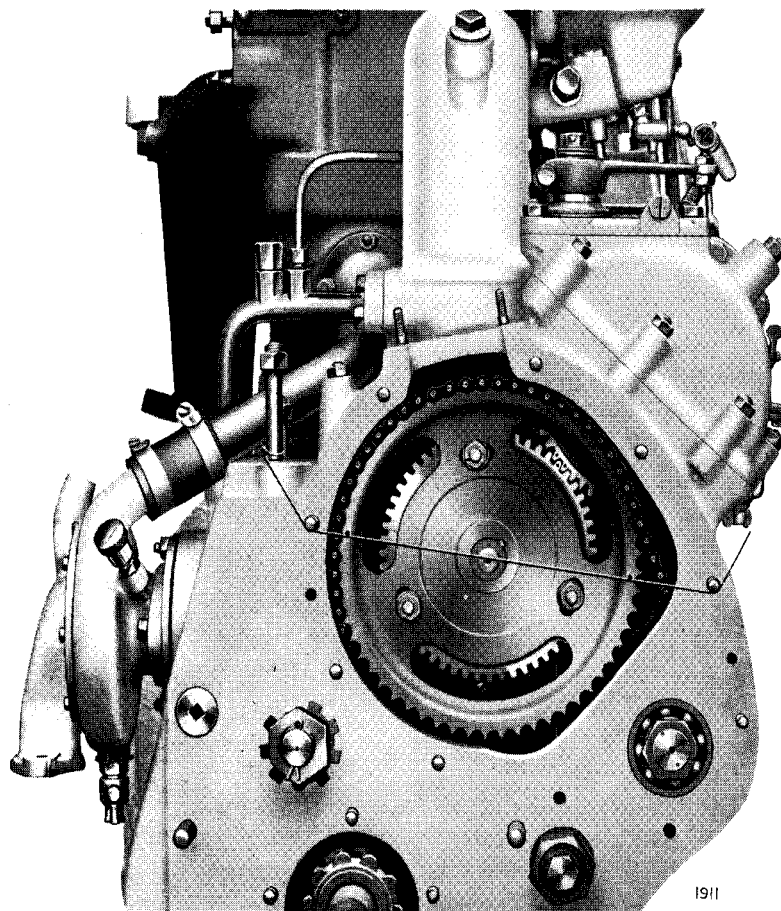

Fig. 21 VALVE CAMSHAFT CHAIN WHEEL AND FUEL INJECTION PUMP GEARS
Gear Adapter. When the cover of the chain case is removed, and the flywheel is set with No. 1 crank at T.D.C. after the compression stroke as directed on page 58, if all be correctly timed, the following events will take place. See Fig. 21.
- (1) The dots 1 and 2 on the crankcase and the dots 3 and 4 on the periphery of the Valve Camshaft Chain Wheel will all lie on a straight line as indicated by the stretched cord in Fig. 21.
- (2) Through the opening in the Valve Camshaft Chain Wheel will also be visible the teeth of the gears of the Valve and Fuel Pump Camshafts and it will be found that the dotted tooth of the gear on the Valve Camshaft lies between the dotted teeth of the gear on the Fuel Pump Camshaft.
- (3) It will also be seen that the four dots on the Camshaft Chain Wheel and Gear Adapter all lie on the straight line which is marked on these parts by means of a light chisel cut. Should the Chain Wheel and Gear Adapter be incorrectly bolted together, this defect will, of course, be immediately visible.
- (4) The line cut on the flanges of the Fuel Pump Driving Shaft and Camshaft, as mentioned above, will also show correct registration.
- (5) One spline on the hub of the Fuel Pump Driven Gear is also marked and this will correspond with the particular spline marked in a similar manner on the end of the Fuel Pump Driving Shaft.
Correction for Stretch or Wear of Timing Chain.—In the course of time the chain wears and, consequently, increases in length which causes the timing of the valves and fuel injection to become slightly retarded, therefore make correction every 30,000 miles by the following procedure:—Inspect the fuel injection timing as indicated on page 59. If it be retarded, slacken the three hexagon nuts securing the Valve Camshaft Chain Wheel to the Fuel Pump Camshaft Driving Gear with Gear Adaptor. See Fig. 21. Rotate valve camshaft (which also rotates fuel camshaft) until lines on the fuel pump window coincide, then re-tighten the three nuts.